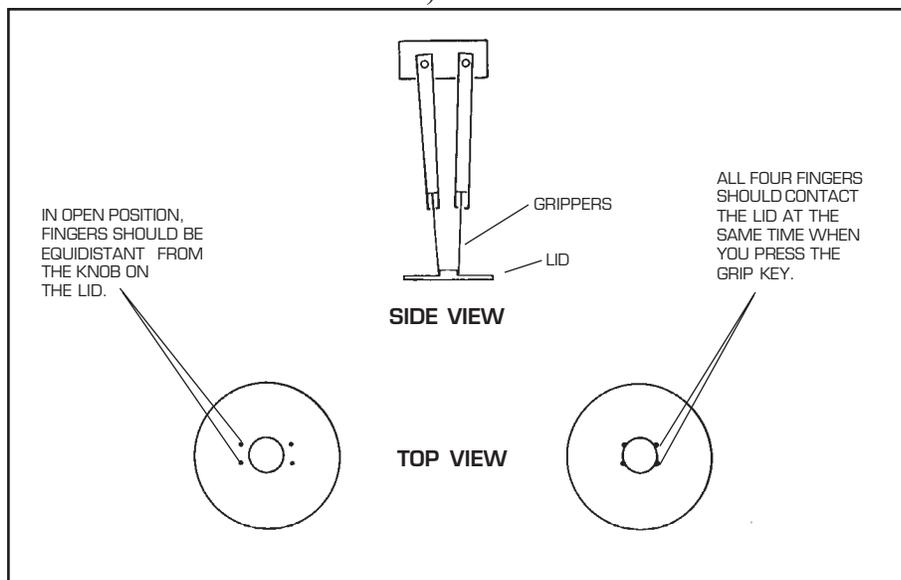

Figure 4.3
3. Use the motion keys to position the grippers over lid #1 (the small lid). Press the GRIP and RELEASE keys repeatedly to ensure that the fingers can firmly grasp the lid, and watch carefully to ensure that each finger contacts the lid at the same time (see Figure 4.3).
10. When the turret stops moving, close and open the grippers again and check your calibration against the criteria in Figure 4.3. Remember to release the lid. If the position is correctly calibrated, go on to step 11. If it is not, repeat steps 3 through 10 with lid #1.